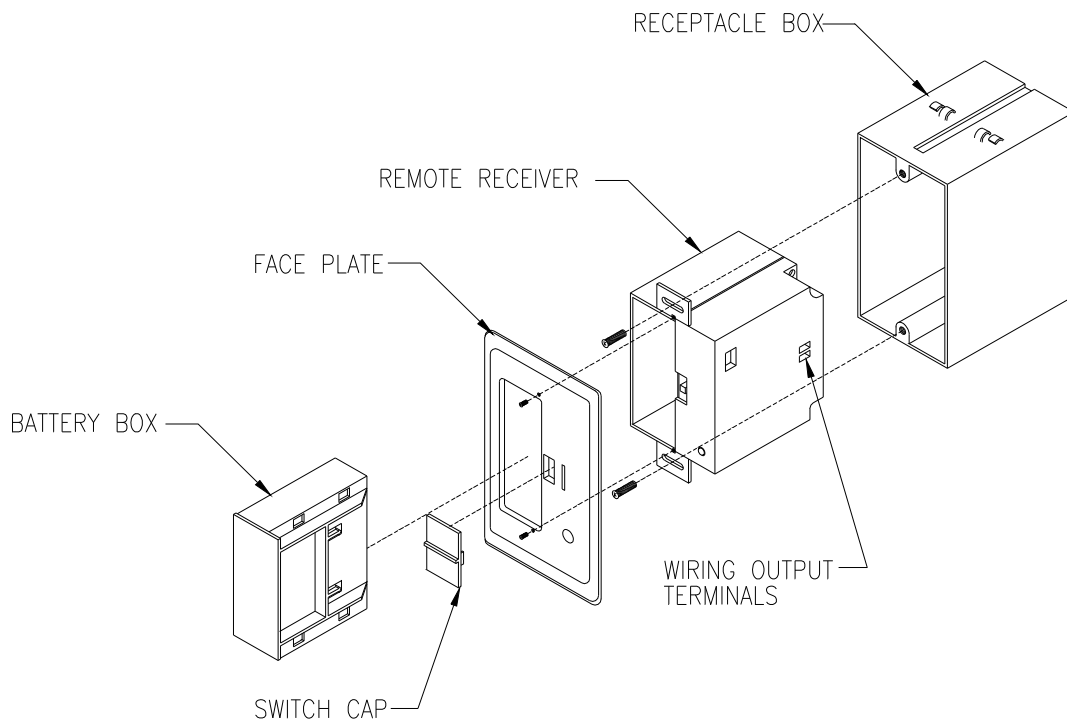

Figure 3
4. Fasten the **Remote Receiver** to the **Receptacle Box** mounted in the wall. Refer to Figure 3.